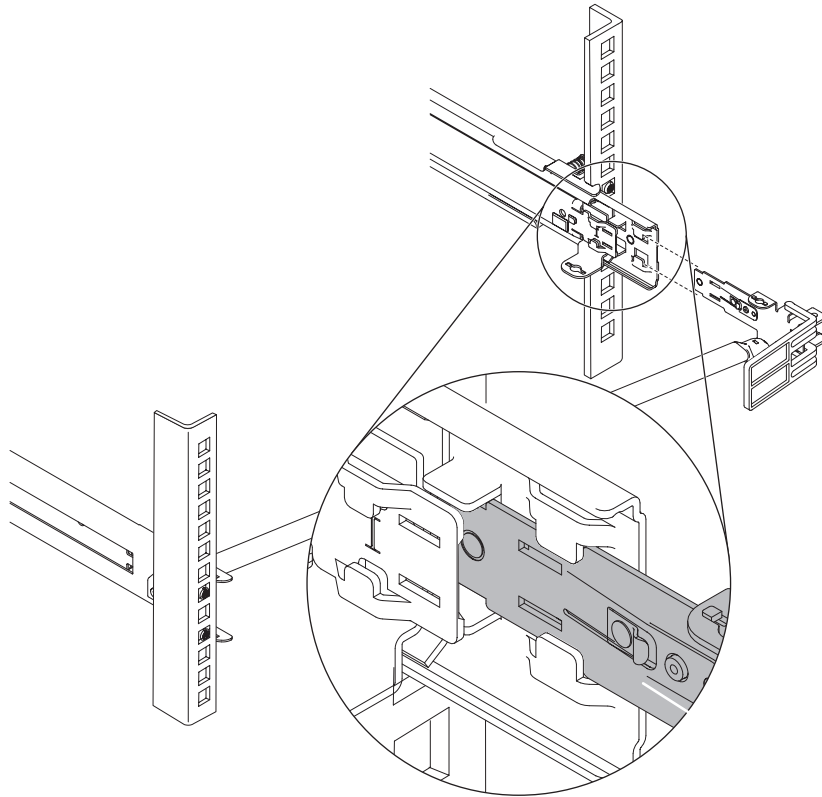

Figure 35. Connecting the stop bracket to the slide rail
5. Connect the stop bracket to the slide rail, as shown in Figure 35 on page 44.